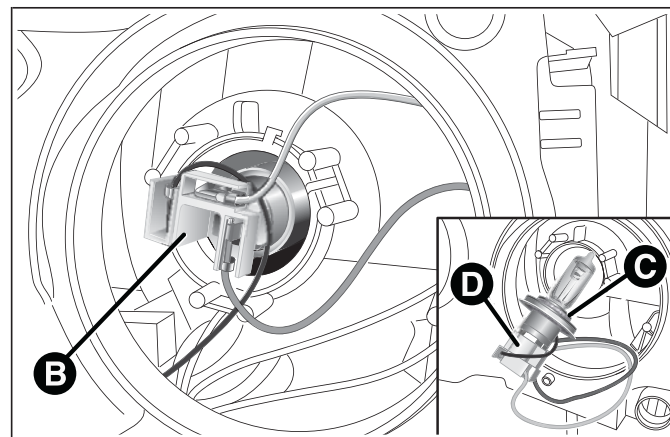

fig. 126
- ☐ push the connector + bulb holder unit B fig. 126 downwards;